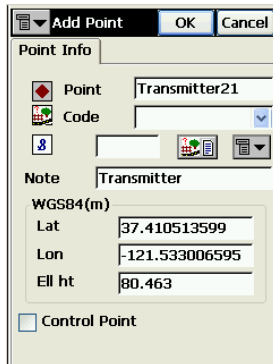

Figure A-6. View Point Information
9. If the resection values are acceptable, tap **Accept** and view the point information for the transmitter (Figure A-6). tap **OK** to save the transmitter's point information.